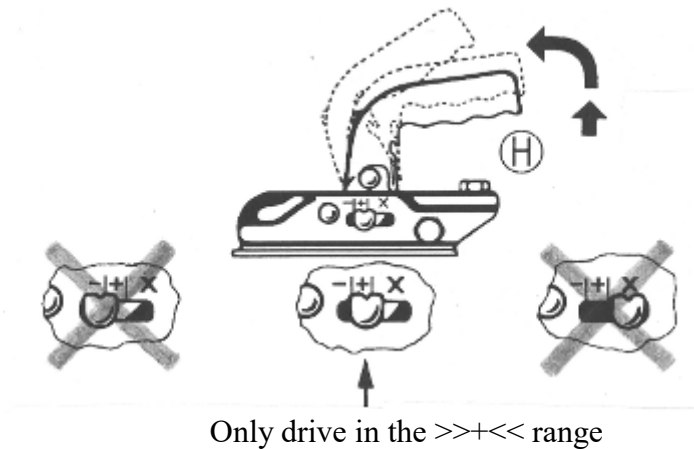
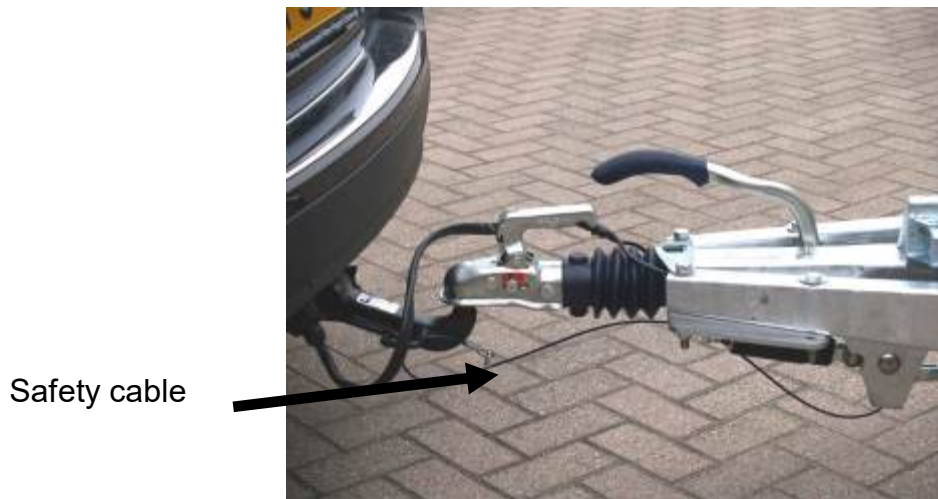

Figure 5.
Figure 11
Open the coupling housing by pressing the locking button on the handle H and moving the handle upwards. Place the opened coupling on the ball of the towing vehicle's tow bar and release the handle. The handle should automatically slide back to the starting position. The coupling is automatically closed and locked in place. Make sure the coupling is in the right position >>+<< (see figure 5). The tow ball must not be visible when the trailer is connected. Fasten the safety cable (see figure 11) and insert the plug in the towing vehicle. Raise the support wheel and secure it in position parallel to the direction of travel (the support wheel must not impede the movement of the brake rod).
- Check the coupling. The coupling housing must completely enclose the ball and must be secured. Make sure the coupling is in the right position >>+<< (see figure 5).
- Attach the safety cable to the towing vehicle (see figure 11).